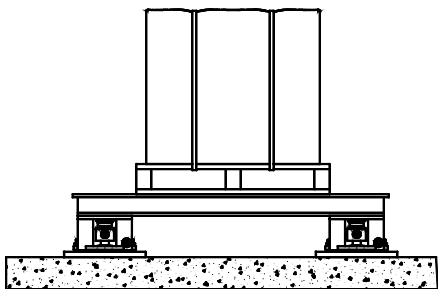

Figure 6-12: Platform Scale
- **Platform Scale:** As long as a platform scale is not subjected to dynamic forces and settling time is not an issue, stabilizers are not required. Even if the platform scale is bumped occasionally (for example, while being loaded by a forklift), it is better to let it float freely to absorb shocks and restore itself after the impact (see Figure 6-12).